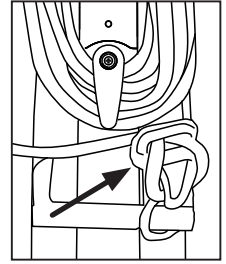

Fig. 2
- Pull apart the rounded end of the cord retainer to open it up enough to fit around the carry handle (Fig. 2).